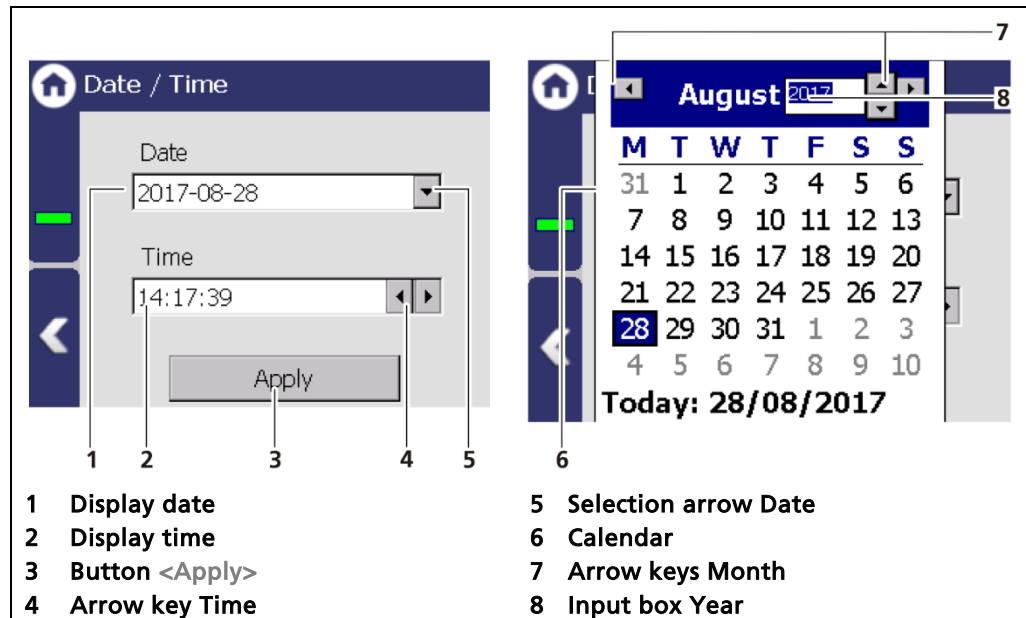

Fig. 42 Date / Time, calendar
1. Click on the arrow key (Fig. 42, item 5) in order to set the date.
- The calendar is opened (Fig. 42, item 6).
2. Click on the year number (Fig. 42, item 8) in order to enter the year.
3. Set the month (Fig. 42, item 7) by clicking on the arrow keys.
5. Change the time by clicking on the arrow keys (Fig. 42, item 4).
6. Click on <Apply> (Fig. 42, item 3), to accept the date and time settings.